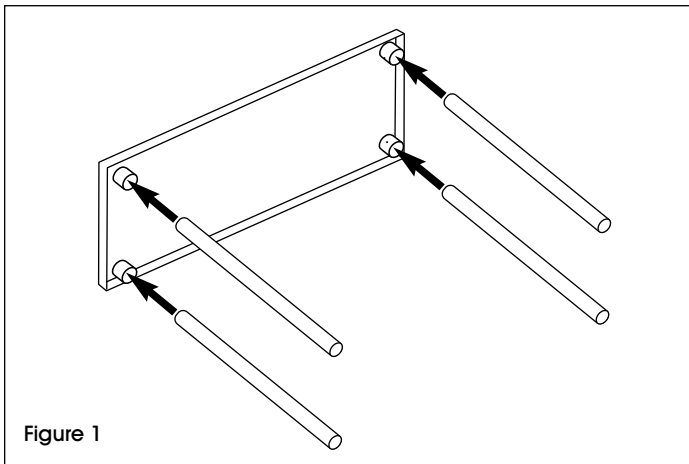

Figure 1
1. With center shelf on its side, push legs through the shelf collars to desired height. To ensure exact height, mark desired height on each leg with magic marker or grease pencil. (See Figure 1)